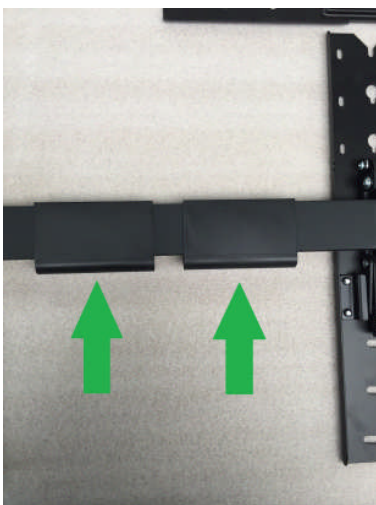

Fig. 6
- 3) Then bring the cable under and along the pivot arm and bring the black cable holder (Fig 6, green arrow) over the arm and click into position.